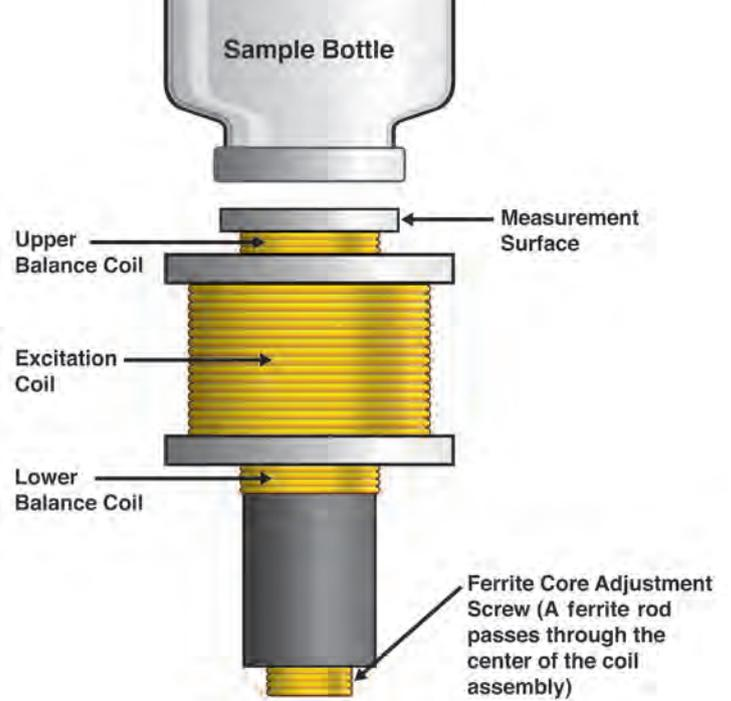

Figure 5: Schematic of the PQ Index Instrument (Courtesy of Jack Poley at Condition Monitoring International)
In order to offer a cost effective approach to ferrous density, many labs will employ the particle quantifier (PQ) index, as shown in Figure 5. The PQ index, like DS and DL, is simply an index value. The higher the value, the more ferrous metal is present in the sample. Unlike DR ferrography, however, PQ only has a single value. PQ is not sensitive to particle size since it is simply measuring a disruption to a referenced magnetic field. The amount of disruption is then calculated as the PQ index. The downside to PQ is that there truly is no separation of particle size. A single, large ferrous particle can offer the same PQ value as many smaller particles that could simply be normal wear debris.